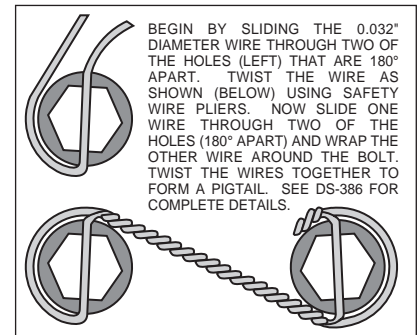

Figure 3. Safety Wire Diagram
- Attach rotor adapter (8) to rotor (9) using six bolts (10). Torque bolts (10) to 180 **in-lb**. Safety wire bolts (10) using standard 0.032 inch diameter stainless steel safety wire as shown in Figure 3. Please refer to Wilwood's data sheet DS-386 (available at www.wilwood.com/pdf/ds386.pdf) for complete safety wire installation instructions. **NOTE:** The flat side of the rotor (8) lugs face toward the rotor adapter (9) with the dished side of the rotor adapter (8) facing away from the rotor (9).
- Mount the adapter/rotor assembly (8 and 9) to the hub (5) using six bolts (11). Torque bolts (11) to 22 ft-lb. Safety wire bolts (11).
- Pack the small outer bearing cone (12) with high temperature disc brake bearing grease and install into front of hub (5). Slide the hub/rotor assembly (5 and 9) with outer bearing cone (12) onto the spindle. Secure using stock washer, adjusting nut and nut locking device.
- Install the dust cap (15) onto the hub (5). Friction created by the o-ring (14) on the dust cap (15) keeps it from unscrewing. The O.D. of the existing spindle washer may be larger than the I.D. of the dust cap (15) not allowing it to seat against the hub face. Therefore, use the spindle washer (13) supplied with the kit instead of the stock washer.
- **NOTE:** Please reference the caution statement at the beginning of the assembly instructions. With the bleed screws pointing up, mount the caliper (16) onto the caliper mounting bracket (1) using lock washers (17), bolts (18) and flat shim washers (19) positioned between caliper (16) and the caliper mounting bracket (1). Finger tighten. View the rotor (9) through the top opening of the caliper (16). The rotor (9) should be aligned in the center of the caliper (16). If not, adjust the caliper (16) by using 0.032 inch thick shims (19) placed between the caliper mounting bracket (1) and the caliper (16). Add as many shim washers (19) as necessary to achieve the correct alignment. Always use the same amount of shims on both the top and bottom caliper mounting bolts (18). Finger tighten and recheck alignment, adjust as necessary. Apply red *Loctite*® 271 to bolt threads (18) and torque to 30 ft-lb. Safety wire caliper bolts (18).
- Install the disc brake pads (20) into the caliper (16).
- Secure the disc brake pads to the caliper utilizing cotter pin (21).